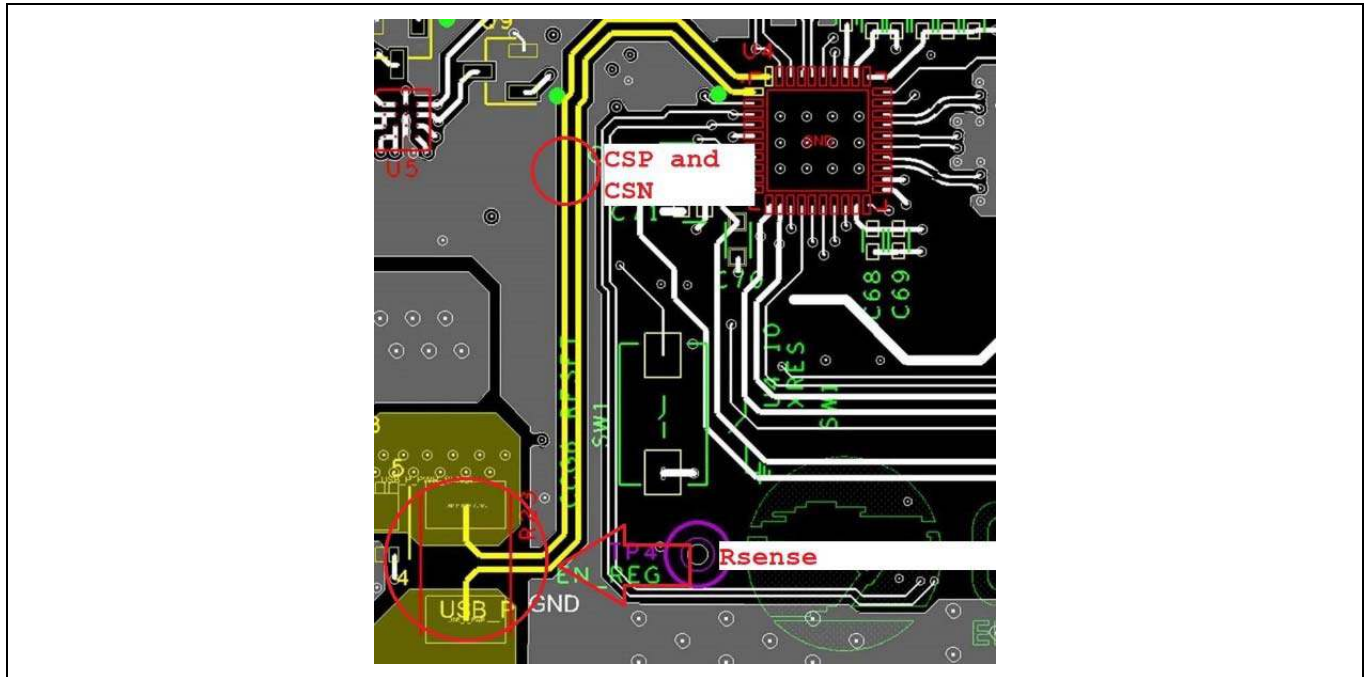

Figure 7-6 Routing of CSP and CSN Traces to Rsense Resistor
- The signals must be routed as differential pair to the external Rsense resistor, as shown in Figure 7-6.